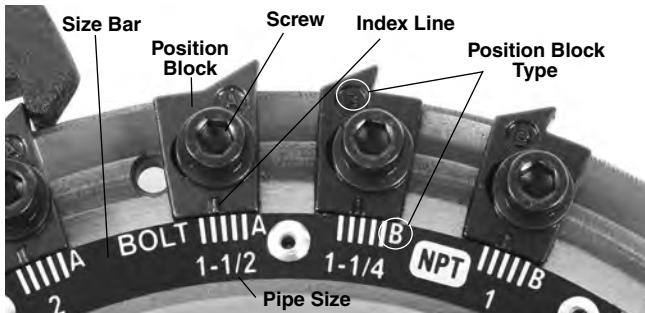

Figure 15 – Adjusting Thread Size
- Always make sure position block type matches (Figure 15).